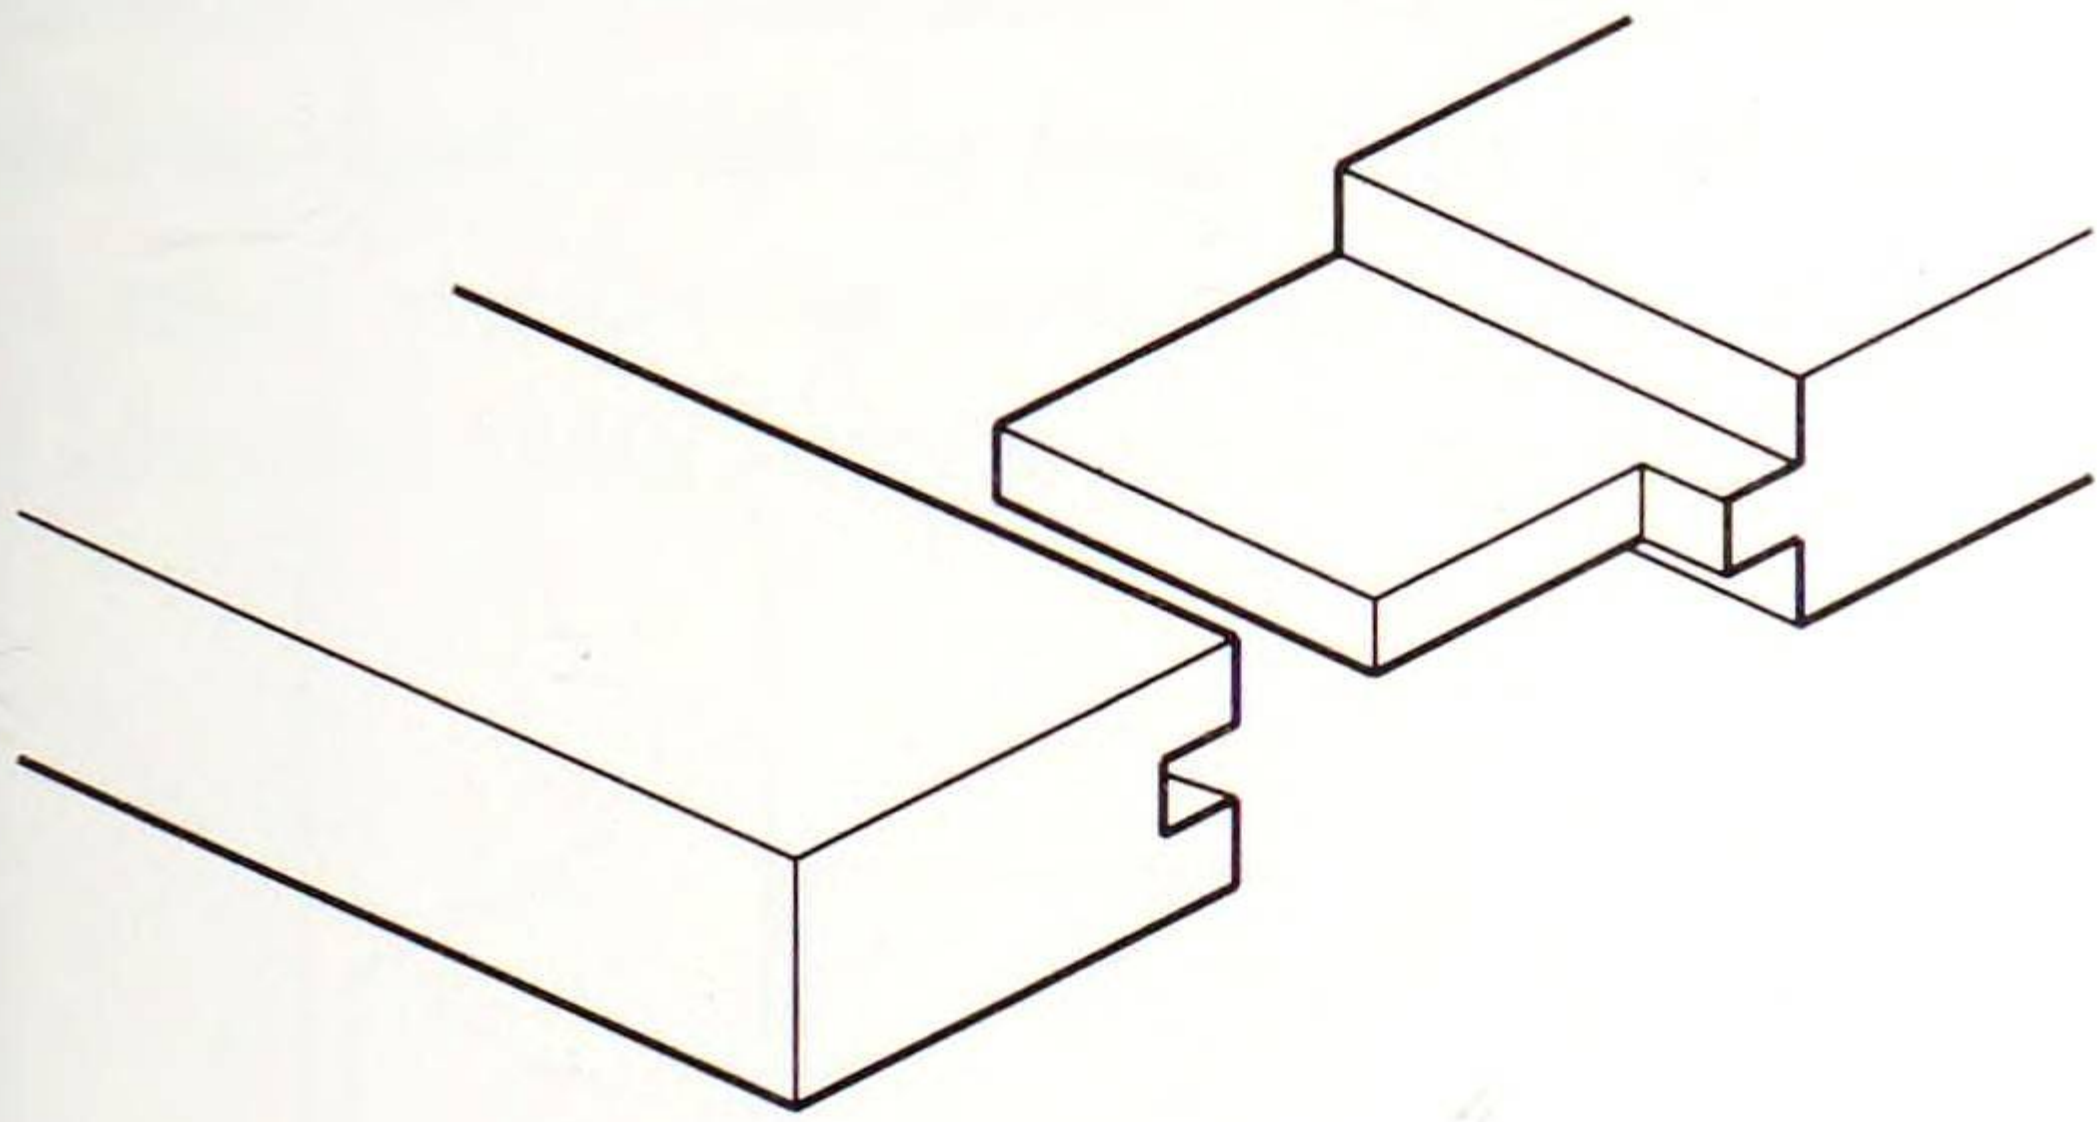

Fig. 7 Mortise and tenon
8. Make the door with two vertical stiles and two horizontal rails and mark out the mortise and tenons (Fig. 7). At this stage you should work the groove or